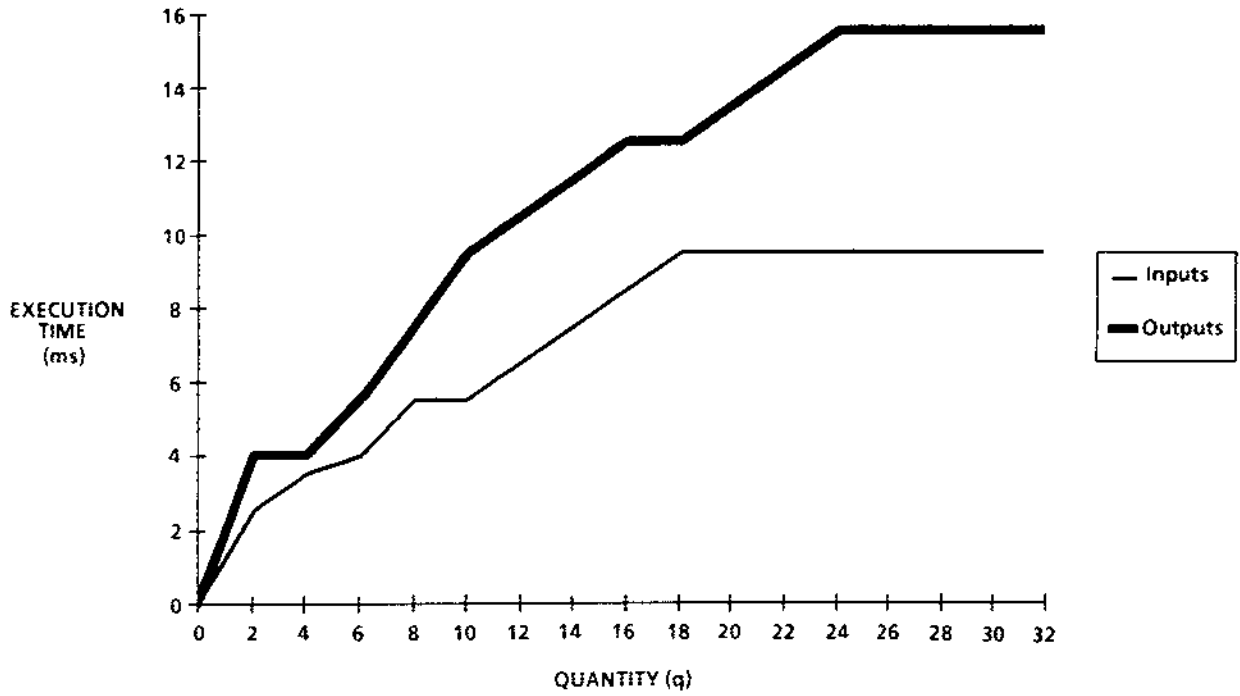

Figure 2.4 Execution Times for Inputs and Outputs
- (4) T_i = Plant inputs - total time taken for all plant inputs. To calculate T_i count the number of inputs and use the graph in Figure 2.4 to estimate the value.
- (5) T_o = Plant outputs - total time taken for all plant outputs. To calculate ' T_o ' count the number of outputs and use the graph in Figure 2.4 to estimate the value.